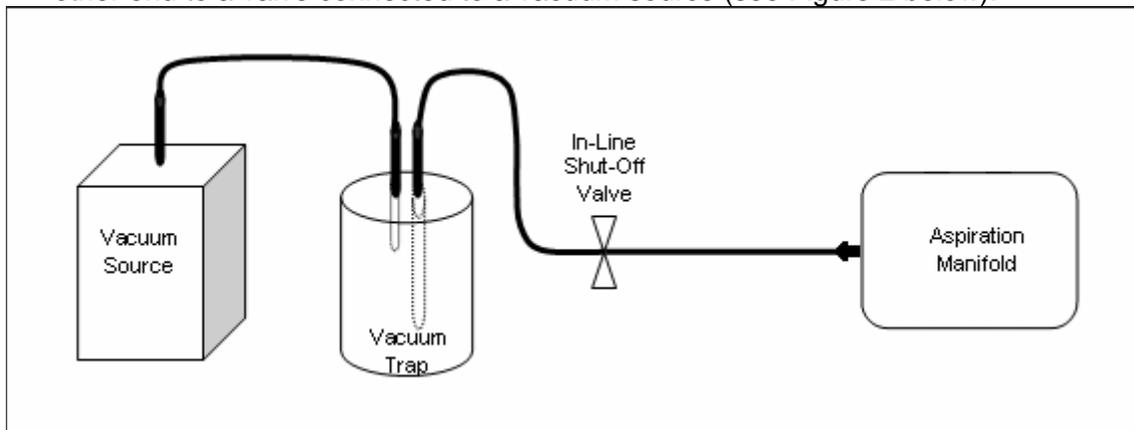

Figure 2. Connecting the Manifold to Vacuum System.
1. Attach one end of a vacuum hose to the nipple on the aspiration manifold (VP 178A) and other end to a valve connected to a vacuum source (see Figure 2 below).